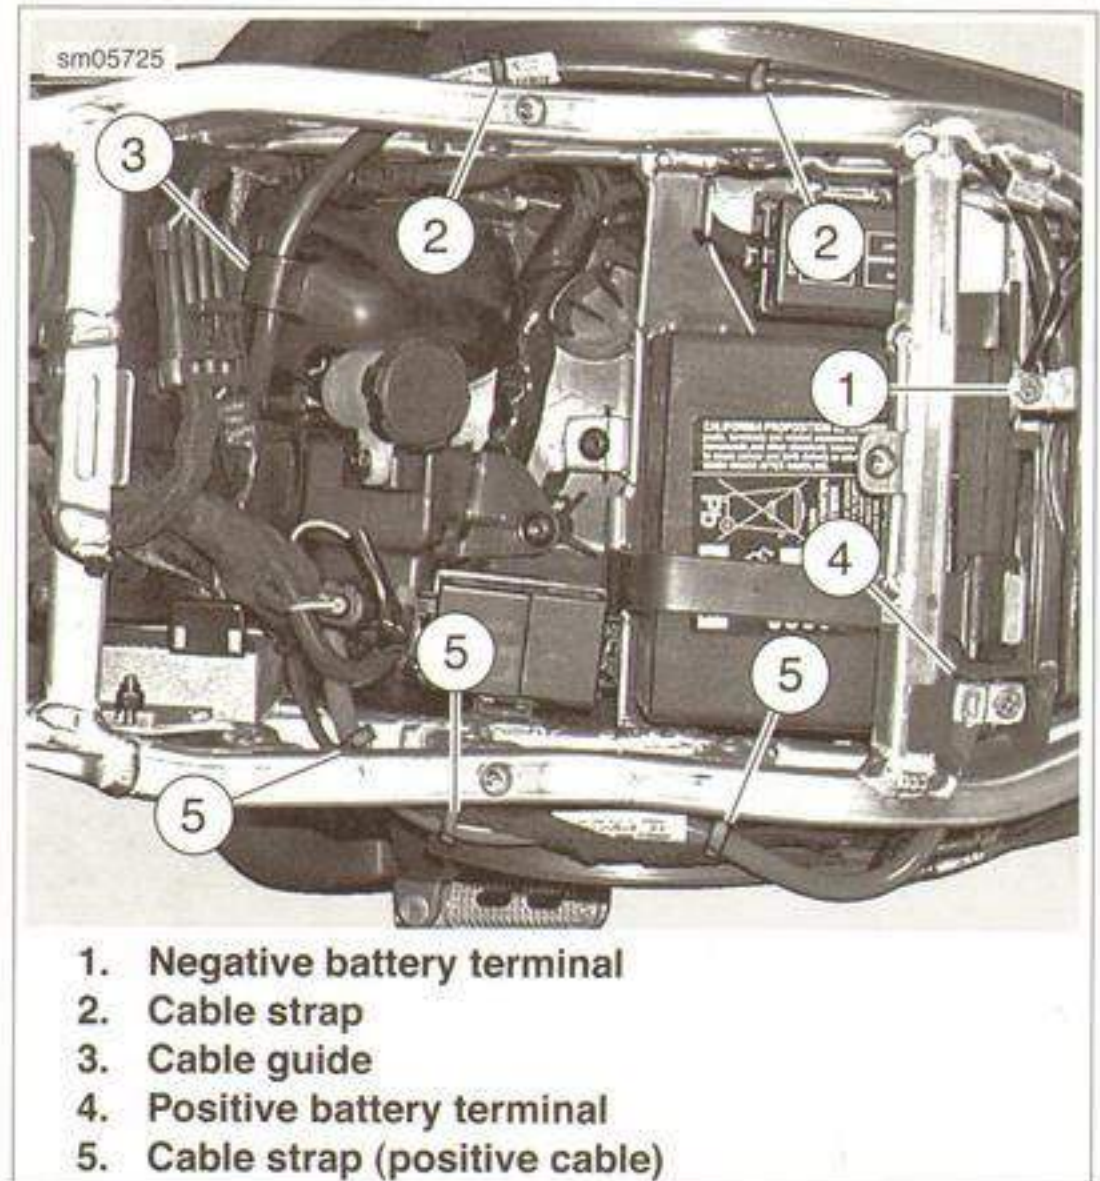

Figure 7-14. Battery Cable Routing
6. See Figure 7-14. Pull the cable attachment clips and negative battery cable from the subframe.